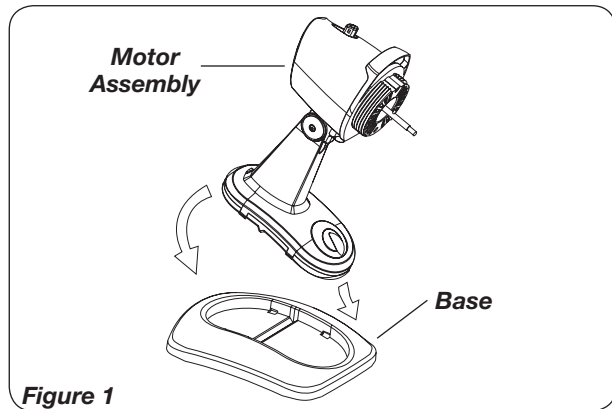

Figure 1
1. Insert front of **Motor Assembly** into front of **Base**. Push back on **Motor Assembly** and fully seat into position. (Figure 1)